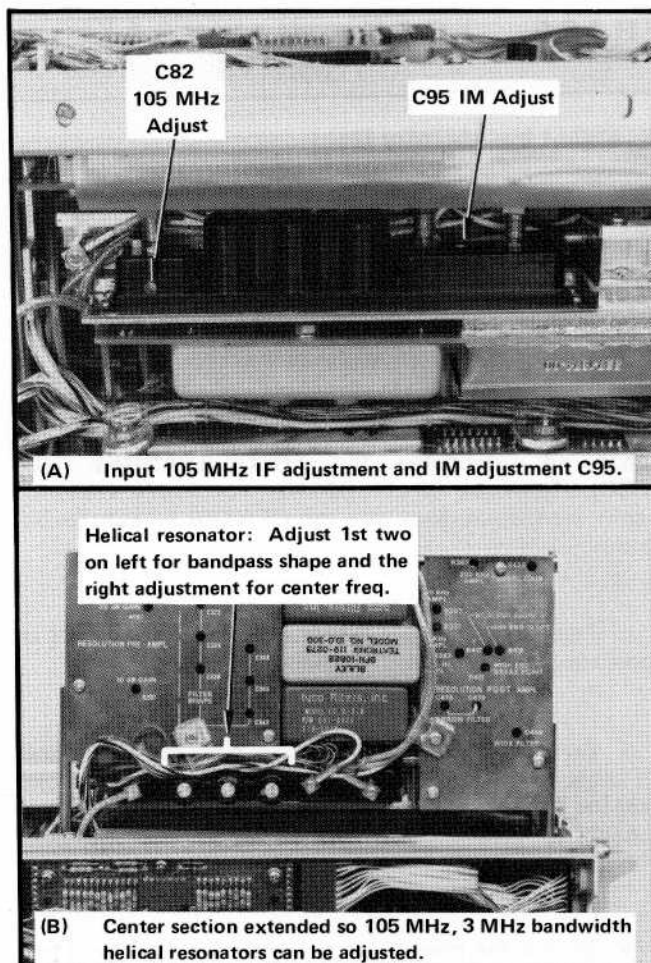
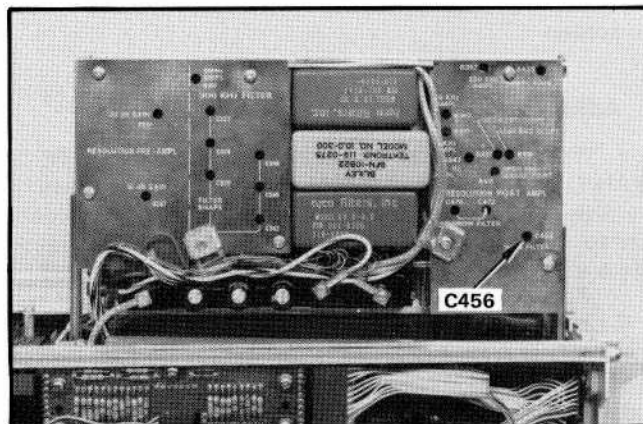

Fig. 4-13. 105 MHz IF and 3 MHz bandwidth adjustments.
Fig. 4-14. Wide-Band Filter adjust C456.
d. Adjust the response of the 105 MHz IF amplifier, and the wide filter bandpass, with C82, the 3 MHz helical resonator. (Fig. 4-13) and C456, in the filter circuit. (Fig. 4-14) so the response is similar to that illustrated in Fig. 4-16.
- 3) Adjust C456 (Fig. 4-14) for maximum bandwidth and amplitude.